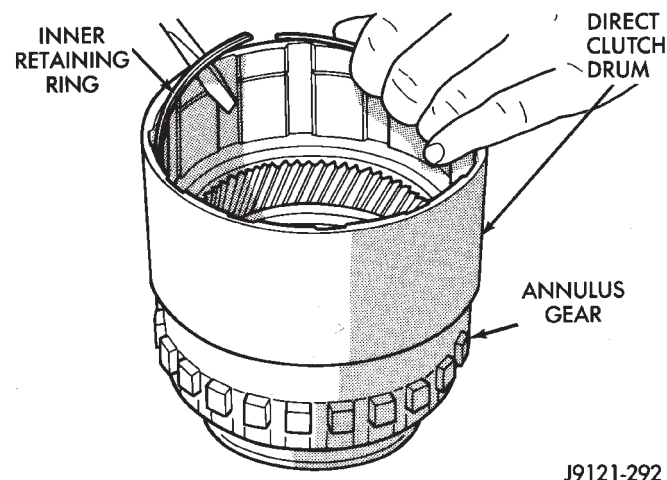

Fig. 323 Removing Clutch Drum Inner Retaining Ring
(16) Remove direct clutch drum rear retaining ring (Fig. 323).